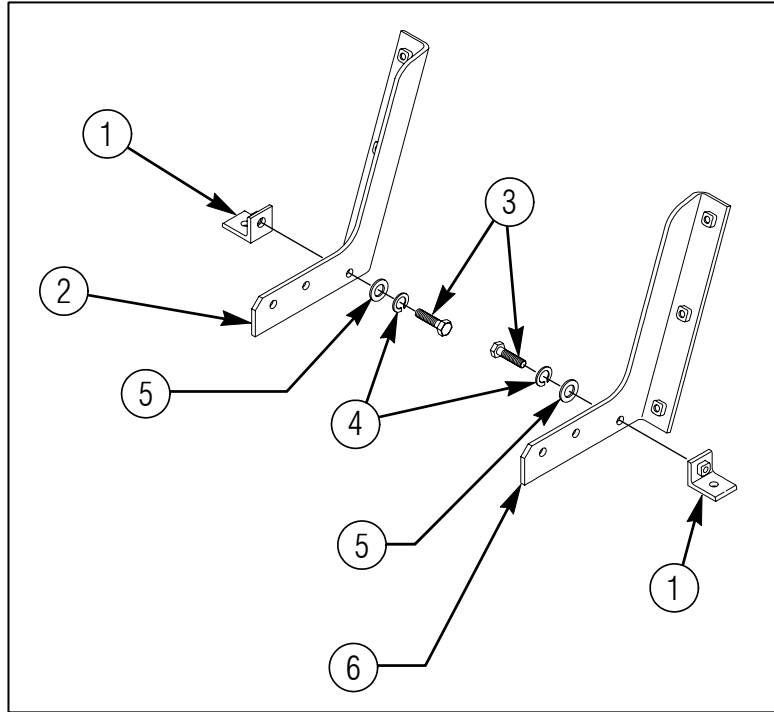

Figure 1
- a. Attach 6431611 small mounting angle brackets (1) to 6431616 left rear support bracket (6) and 6431617 right rear support bracket (2) using two 4397000-060 hex bolts (3), two 4397004-008 lockwashers (4) and three 4397005-015 washers (5) as shown in figure 1. Do not tighten hex bolts at this time.
- e. Tighten hex bolts (3) to 37 lb-ft (50 N·m) as shown in figure 1 (pg 7).